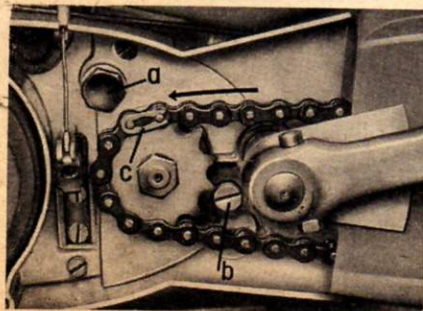

Fig. 77 Correct position of the spring link securing clip
5. Reverse the procedure when reassembling. It is essential that the jaws of the securing clip face into the run of the chain. (See fig. 77)